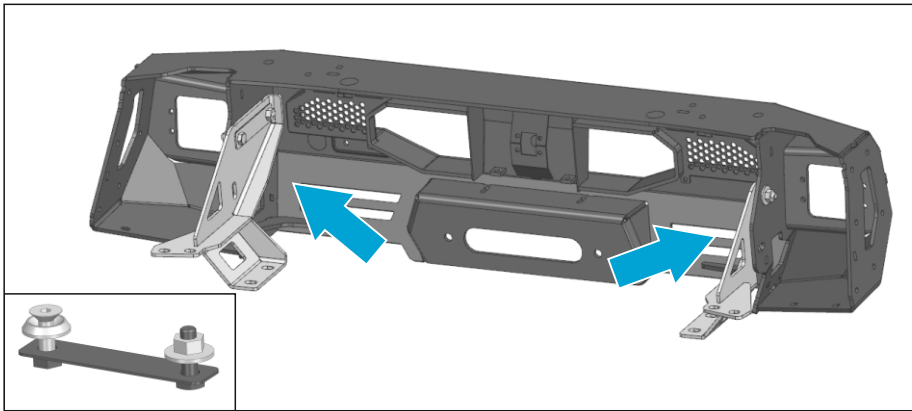
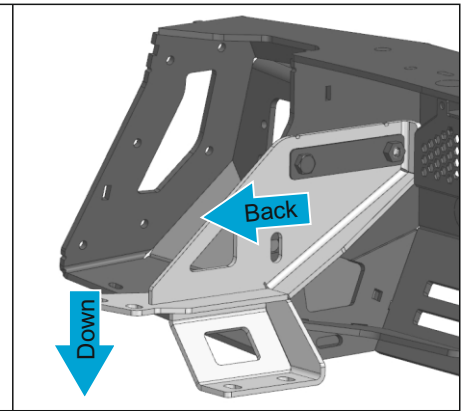

Fig.49
Fig.50
46. Install the frame bracket (item 27, 28) to the bumper body (item 2) using M10 insert nut, M10 screw, M10 countersunk washers, M10 penny washers, M10 nuts (items D, E3, I3, G, O) (Fig. 49). Slide the brackets back and down as shown in Fig. 50.